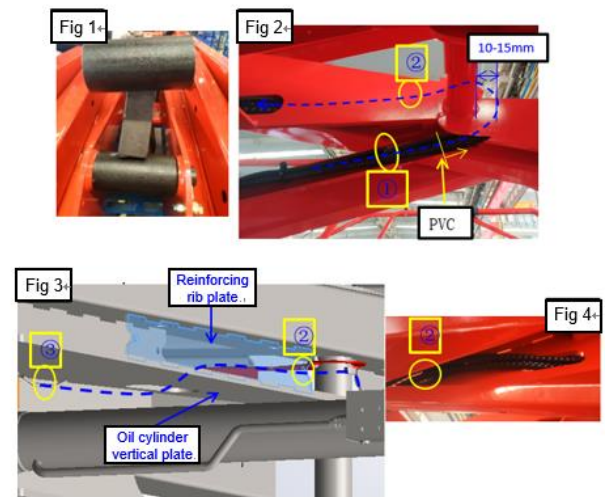

Fig. 4.89 Installation of third layer pipeline
- a) Get the oil pipe and harness connecting the upper oil cylinder straight (all positions shall not be crossed), arc along the middle axis of the three-layer inner beam from the wiring plate as shown by the blue dotted line in Fig. 2 of Fig. 4.89, and bind it to the three-layer fork. The key control points are as follows: